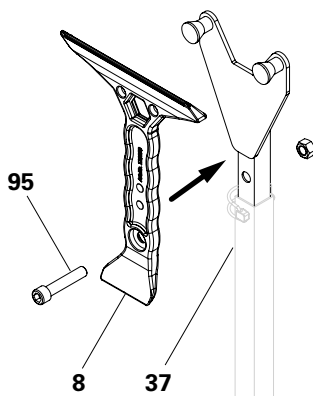

Fig. E1.04
- To fulfil the surface requirements, these can be exchanged. (Fig. E1.04)
For this, firmly attach the DUO cleaning device (**8**) to the DUO shuttering aid (**37**) by means of M12 x 60 Allen screws and nuts. (Fig. E1.04)